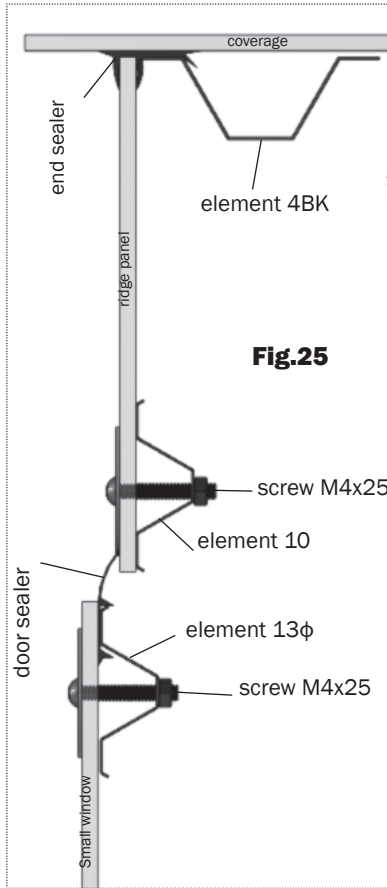
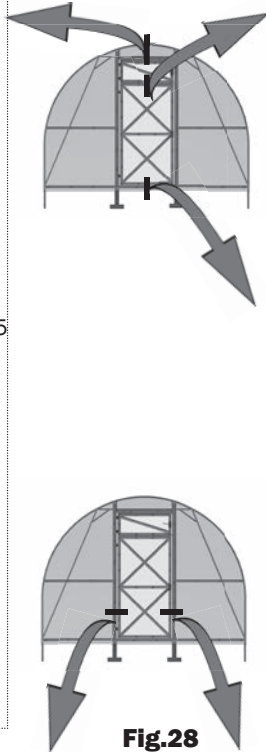

Fig. 25
Fig. 28
6. Fasten pieces of coverage on door and small window using washers (**Fig. 23, 24**) making runoff by one side (**Fig. 28**) closing combs beforehand (with adhesive tape). Mount sealing profiles by door contour in accordance with **Fig. 25, 26, 27**. Mount hinges over polycarbonate. When mounting hinges on small window, eliminate screw gaps in holes: move top hinge to the small window and bottom hinge - from the small window. It is necessary for compensating a hinge play to eliminate small window slack.